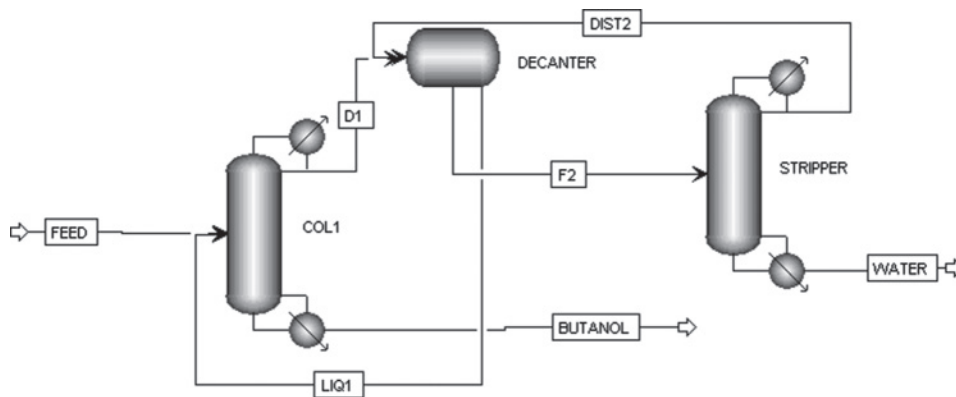

FIGURE 8-A3. Two-column distillation system for separation of binary heterogeneous azeotrope
11. Modify your flowsheet to include a stripping column (Figure 8-5A), except use the column condenser to produce a liquid distillate. Your flowsheet should be similar to Figure 8-A3.